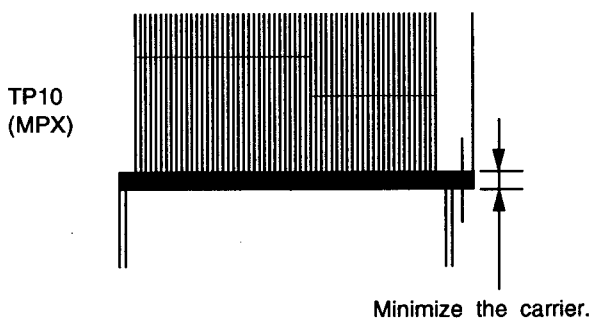

Fig. 5-2-3
- Adjust VR6 so that the carrier on the signal becomes minimum as shown in the Fig. 5-2-3.